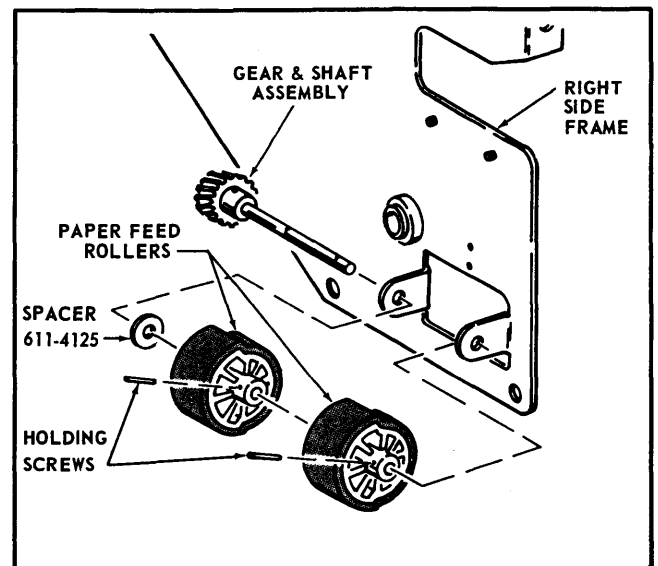

Figure 8.
E. If the original Feed Rollers were attached with Roll Pins, insert the Paper Feed Roll Gear And Shaft Assembly into the hole in Shaft mounting tab on the Right Side Frame Assembly. See Figure 8.